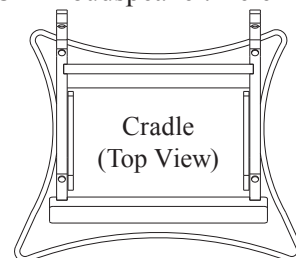

Figure 11
5. Open the inner carton, remove the Cradle and place it in the final location of the XCS1K Loudspeaker. Refer to figure 11.